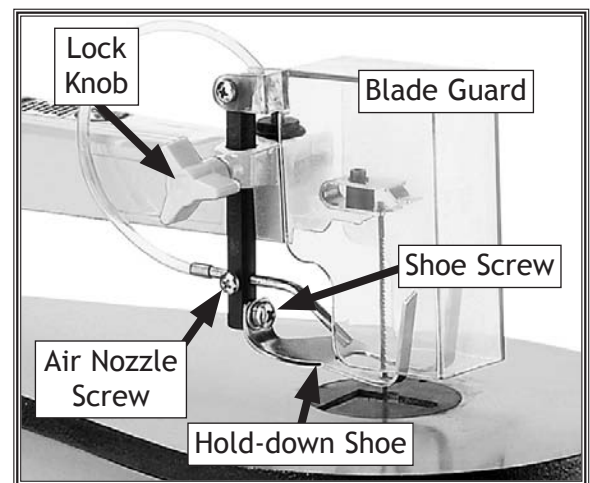

Figure 12. Hold-down shoe/blade guard and air nozzle controls.
2. Loosen the hold-down shoe rod lock knob, then adjust the shoe until it is as close as possible and flat to the workpiece without interfering with its smooth movement across the table (see Figure 12).
The air nozzle blows air at the cutting location to keep wood debris away from the line of the cut. Use the air nozzle screw shown in Figure 12 to adjust the position of the nozzle that best suits your operation.